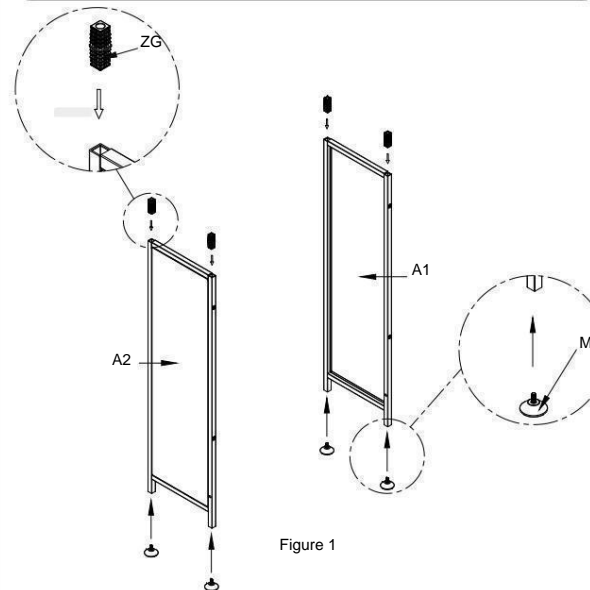

Figure 1
1. Screw M into the bottom of A1 and A2, and then knock ZG into the top of A1 and A2 as shown in Figure 1.